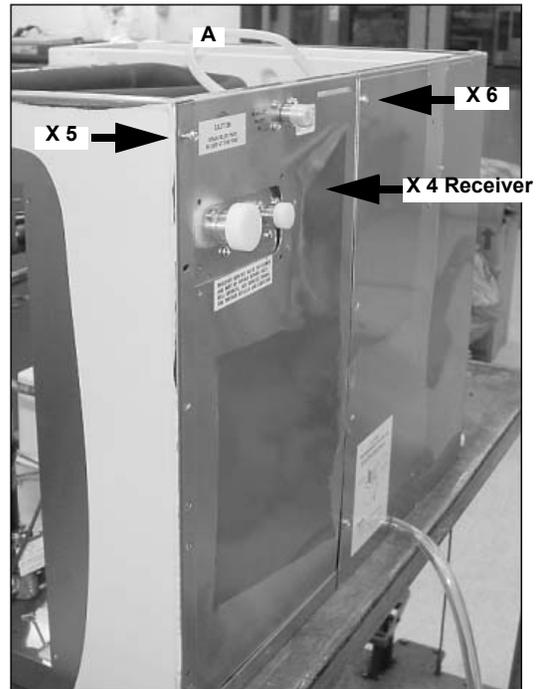

Figure 45.
Attach the water line (A) to the Heat Exchange Suction Line with the 7" wire tie. (Figure 45).